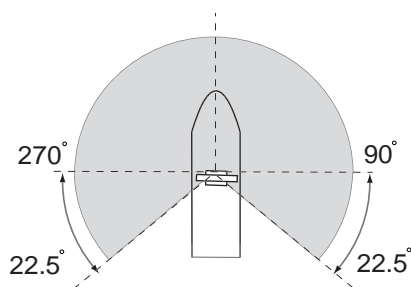

Figure 1
- Mount the antenna unit so that any blind sectors caused by objects (mast, etc.) are kept to a minimum. No blind sector should exist in arc of the horizon from right ahead to 22.5° aft of the beam to either side (see Figure 1 below). Also, individual blind sectors of more than 5°, or the total arc of both blind sectors of more than 20°, should not occur in the remaining arc (Figure 2). Note that any two blind sectors separated by 3° or less are regarded as one sector.